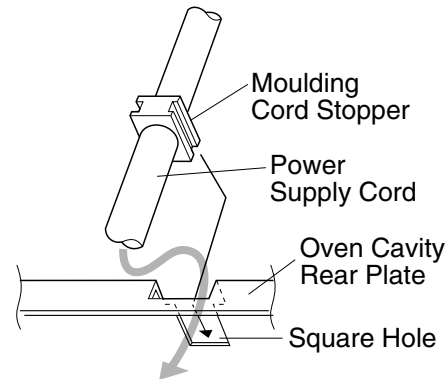

Figure C-3. Power Supply Cord Replacement
- Insert the moulding cord stopper of power supply cord into the square hole of the oven cavity rear plate, referring to the Figure C-3.
- cavity rear plate with one (1) screw and tighten the screw.